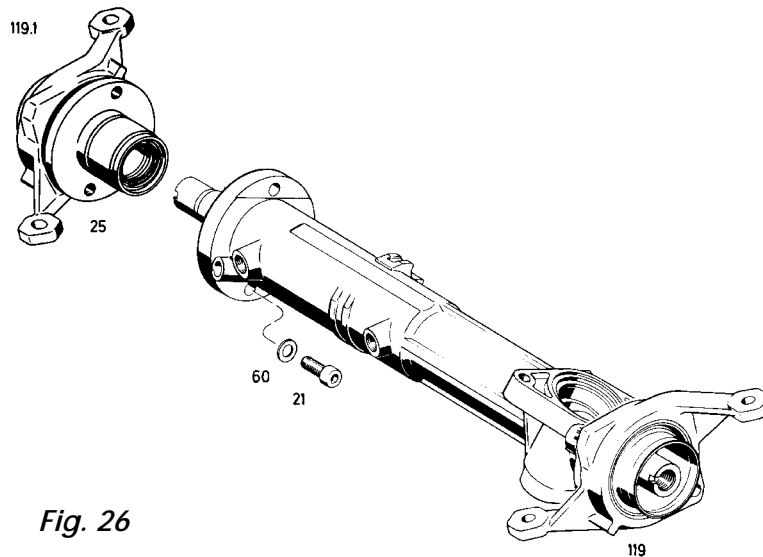

Fig. 26
Insert the silent bloc (119.1) along with the pre-assembled piston rod guide (25) (**Fig. 26**).